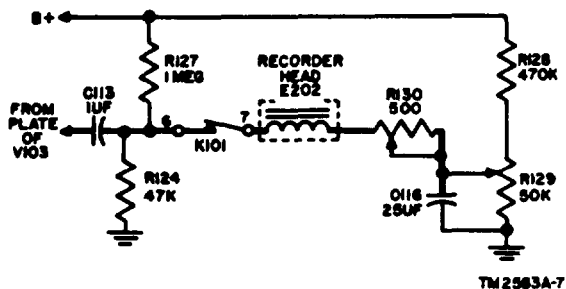

Figure 25. Noise balance circuit, simplified schematic diagram.
*i. Noise Balance Circuit* (fig. 25). The noise balance circuit cancels out the effects of residual magnetic bias in the recorder head and thus lowers the noise level of the recorded information. A small dc voltage, impressed across the circuit, improves the linearity of the recorded signal by suppressing the third harmonic distortion. The circuit consists of resistors R128 and R129 and capacitor C116 as one side, and resistors R127 and R124 as the other side. Because positive voltages of differing magnitudes are applied across the recorder head, a current will flow through the recorder head to cancel the effects of any residual magnetic bias. Resistor R129 is used to set the level and polarity of current through the recorder head.